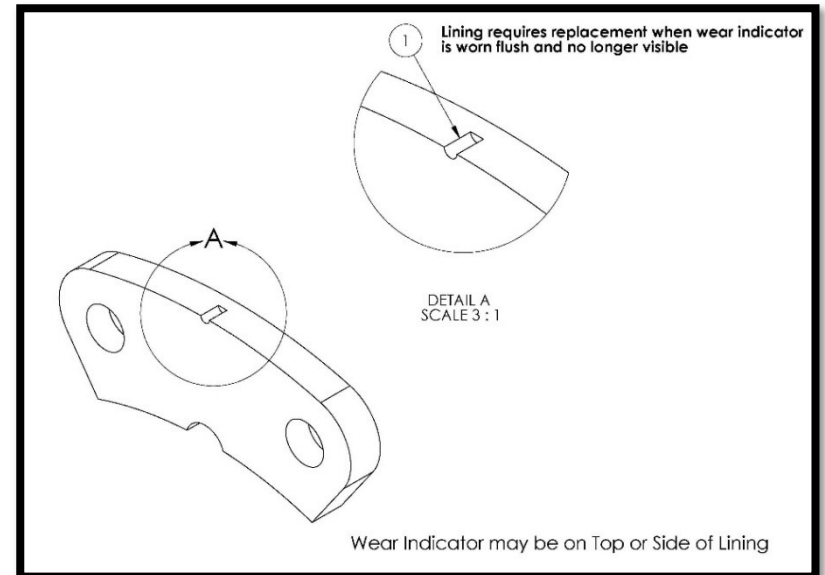

Fig. H-1
To eliminate wear on brake linings beyond design limitation and reduce possible piston damage or fluid leakage, the following information is presented. The WHLM66-106 lining found on the WI51 series should be replaced when the thickness of the remaining wear material reaches 0.100 IN.(2.54mm) See Fig. H-1 the brake lining has a visible wear notch (A) located on the side of the lining. The inside edge of the visible wear notch is at the minimum material condition.